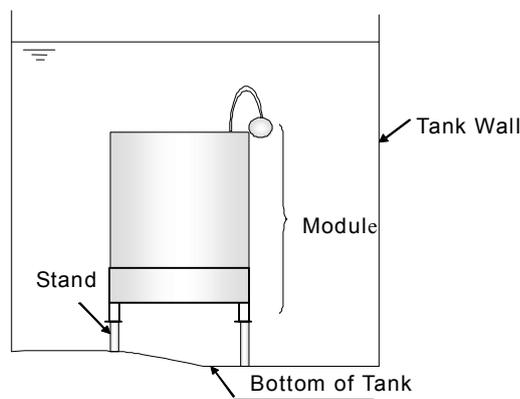

Fig.IV-6 Installation with Stands (side view)
- * Please contact us in the case of the undulated floor of the tank. It is recommended to install the modules with stands as shown in Fig.IV-6.